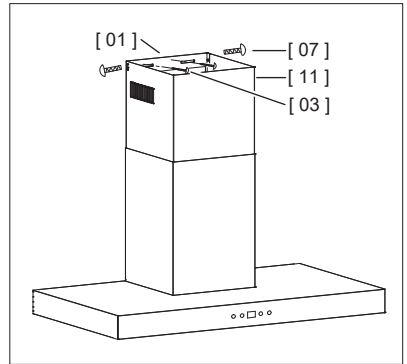

Fig 6
1. Center the **Chimney Mounting Bracket [01]** over the **Range Hood [09]** and hold it at the position. (Fig 6)
2. Secure the **Chimney Mounting Bracket [01]** with two **#8 x 1.18" Screws [03]**. (Fig 6)
3. Pull up the **Upper Flue [11]** and secure with two **M4 x 0.23" Screws [07]** from two sides. (Fig 6)